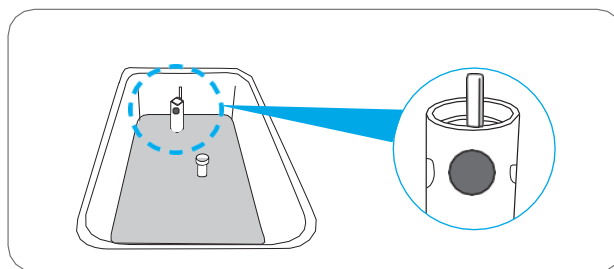

Figure 38
4. Wait until the display shows “100%” then open the feed tube. (Figure 38) There are three holes in the feed tube. To do this, turn the feed tube until the middle hole is unplugged.